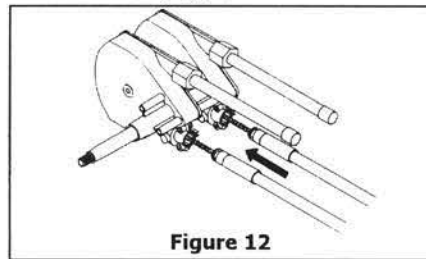

Figure 12
STEP 3. Feed the cables into the LOWER helm entry spigots, keeping the conduit fittings aligned, until they contact the internal gears. Then turn the steering wheel to draw the cables fully into the helm (see Figure 12). Continue turning the wheel until the end fittings of the cables are entered into the entry spigots, and the wheel cannot be turned further. During this you may hear a click as the locking mechanism engages. Turn the steering wheel fully in the other direction until it cannot be turned any further and check that the cable end fittings are retained inside the entry spigots.